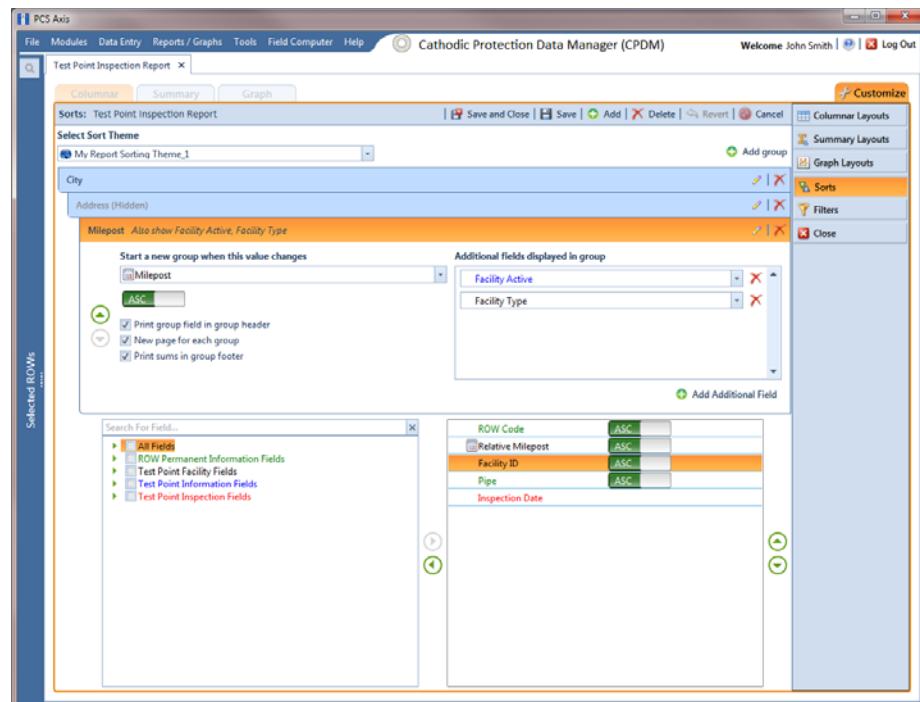

Figure 15-38. Sort Theme Groups
- a** Click  **Add group** to add a new group (Figure 15-38, page 661).
- c** If you want to add another field in the group, click  **Add Additional Field**. Then click the down arrow and select a field in the selection list. The title bar of group includes the name of each field (Figure 15-38, page 661).